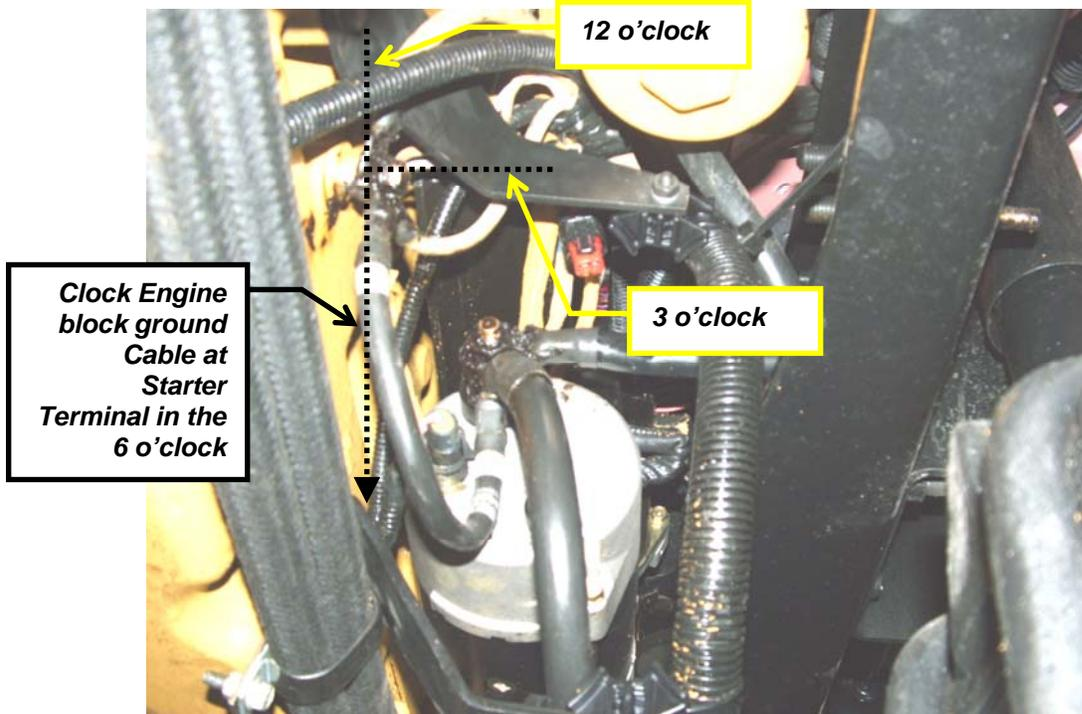

Figure 30 – Correct engine block ground cable routing.
TO PREVENT CHAFING OF THE POSITIVE CABLES AGAINST THE ENGINE BLOCK GROUND CABLE (SEE FIGURE 29), PLEASE ENSURE ENGINE BLOCK GROUND CABLE IS CLOCKED IN THE DOWNWARD (6 O'CLOCK) POSITION, SEE FIGURE 30.
- ***If contact or chafing of the ENGINE GROUND cable against the Battery Cables is present, rotate and tighten the ground cable on the starter terminal so it is straight down (6 o'clock position) and not contacting the starter positive cables, see figure 30.***